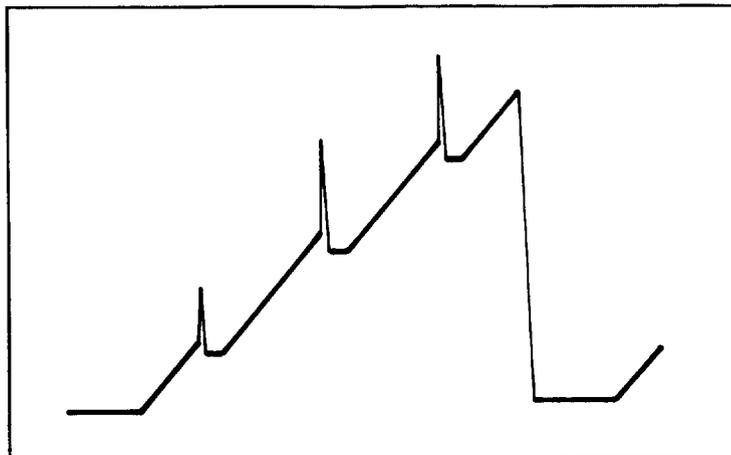

FIGURE 42. IMPROPERLY ADJUSTED DC LEVELS BETWEEN SWEEP RAMPS
7. Connect oscilloscope to A16TP4. Display should be a ramp similar to that shown in Figure 42.
8. Adjust A16R68 AUX adjustment to align the dc level of the rest time between each ramp with the upper dc level of each ramp. Refer to Figures 42 and 43 for typical display and illustration of proper adjustment.